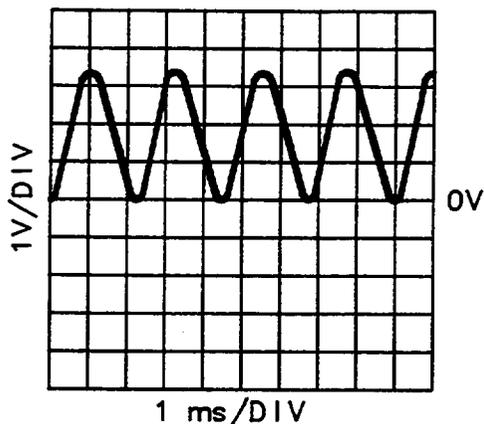

Figure 8-8. A4TP5 Phase Detector Waveform
12. Connect the oscilloscope to A4TP5. Verify the signal shown in Figure 8-8. The signal level should be .9 times the voltage at A4TP17 p-p,  $\pm 0.4V$ . Retain the peak voltage reading for steps 13 and 15.